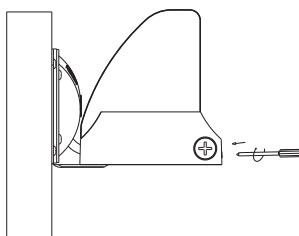

Figure 3-6
6. Push the wires into junction box; after installation, tighten the screws. (Figure 3-6)